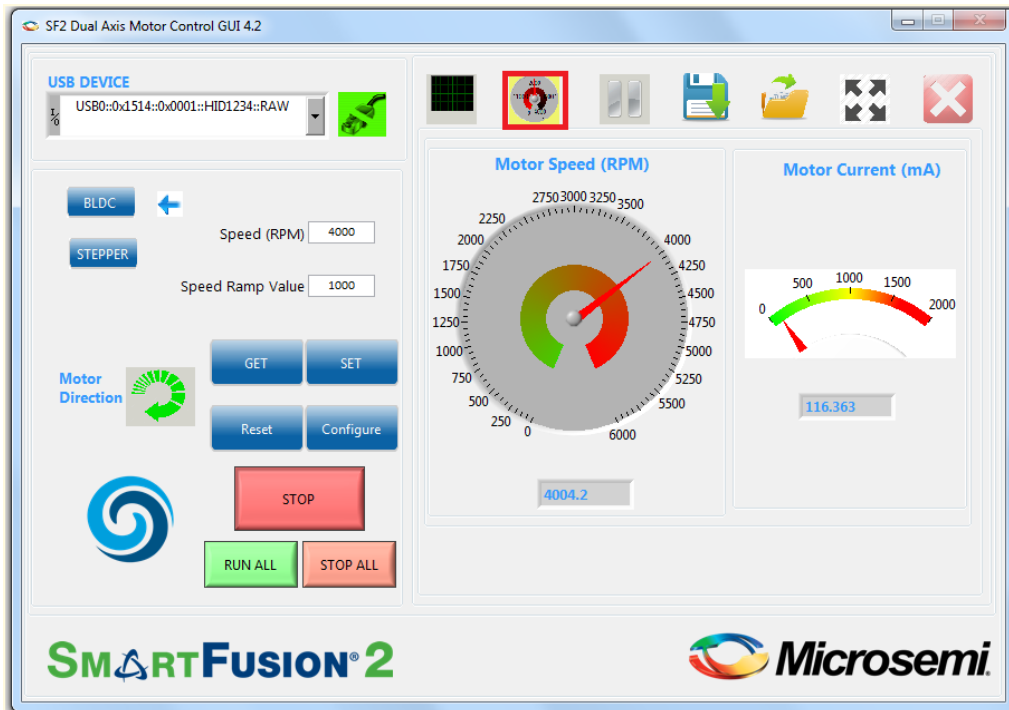

Figure 24 • SmartFusion2 Motor Control GUI - Displaying Speed and Current
8. To view the motor speed on a tachometer dial, click **RPM and Current** as highlighted in Figure 24 on page 27.